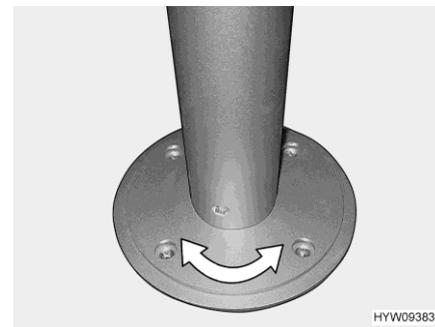

Fig. 134 Pillar table leg (rotatable) (dependent on model)
- Rotate table top to the desired position. In order to do this, you need a little effort, because the table top rotates against the friction resistance on the pillar table leg (Fig. 134).